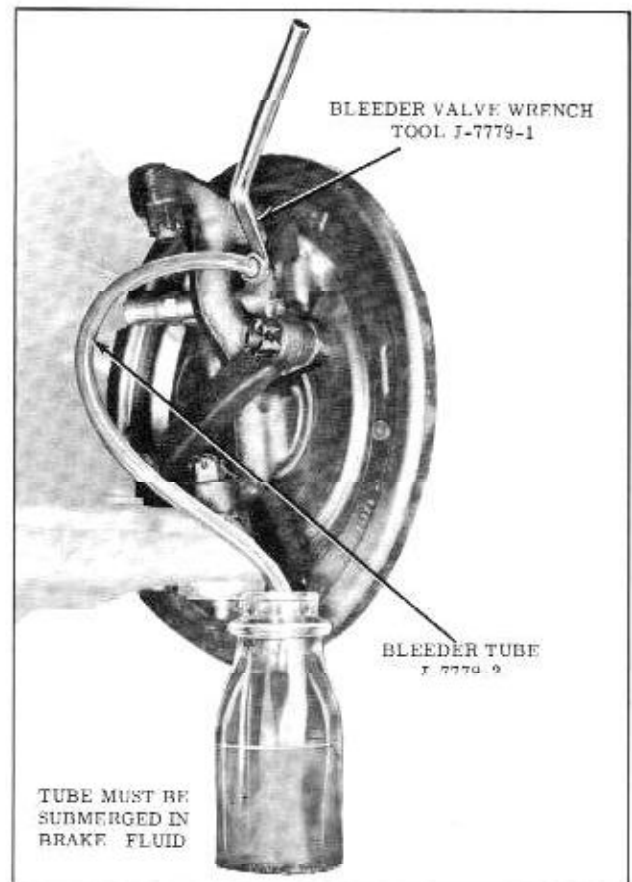

Figure 7-12 Bleeding Brakes
3. Attach Bleeder Tube J-7779-2 to wheel cylinder bleeder valve. (Fig. 7-12)